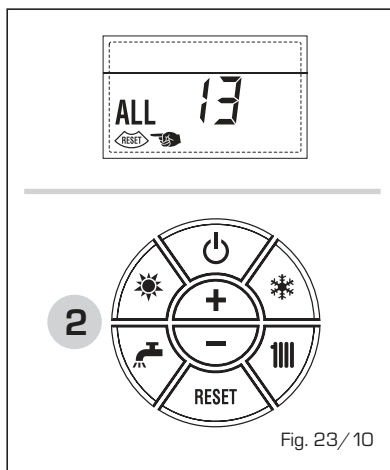

Fig. 23/10
- ANOMALÍA Sonda HUMOS "ALL 14" (fig. 23/11)